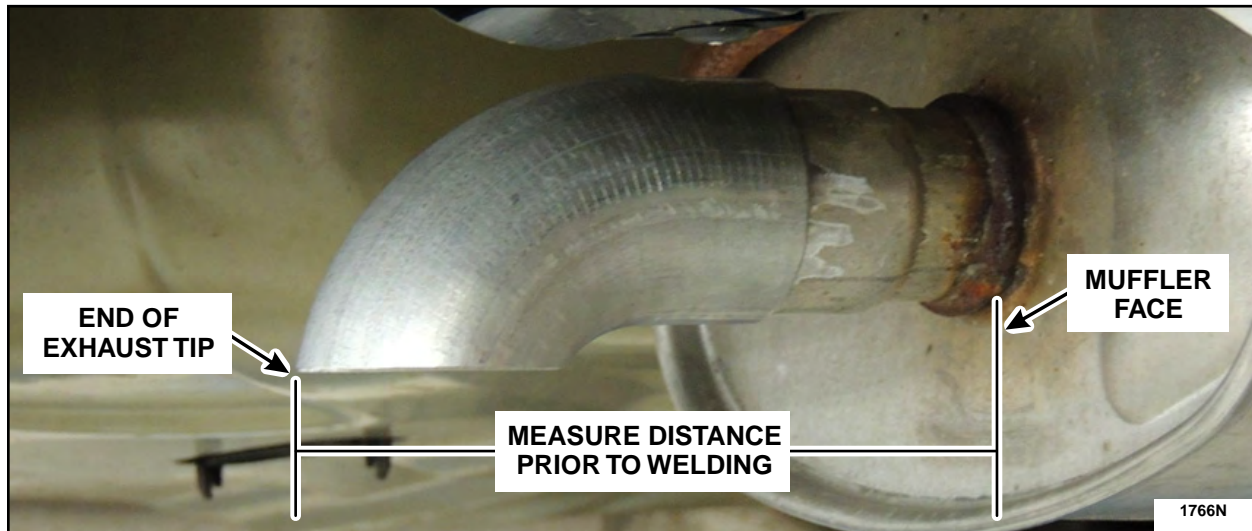

FIGURE 31
3. Install the *new* exhaust tips. Use a tape measure or ruler to position the exhaust tip prior to welding. See Figure 31.